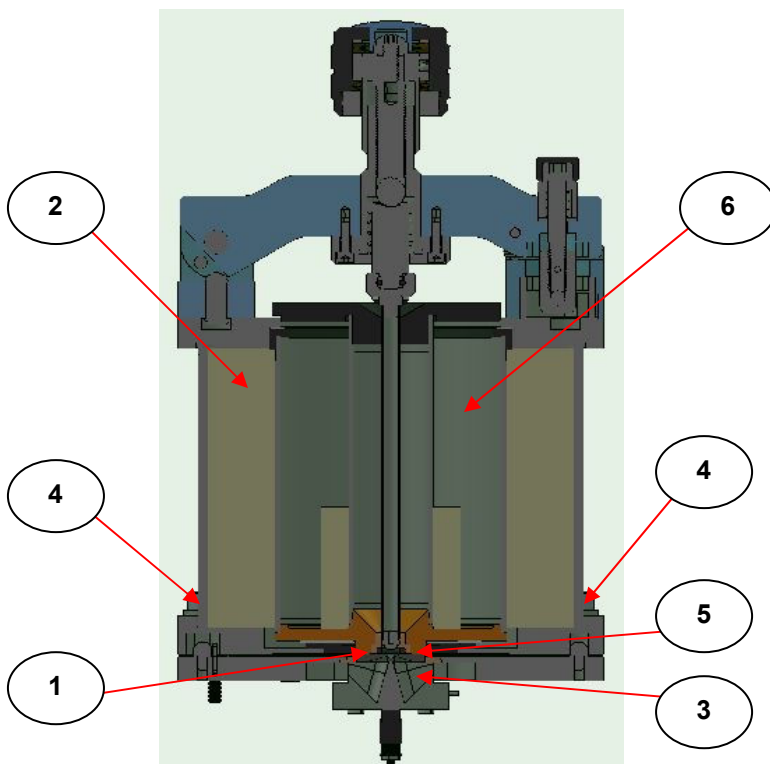

Fig 1. Cutaway Sectional Front View of Low Temperature Golden Gate™ Top Plate
The analysis area of the top plate is a heatable diamond crystal bonded into a tungsten carbide support disk (1), surrounded by a cooling jacket dewar assembly (2). The dewar assembly is clamped to the heated diamond ATR top plate (3) by four clamping screws (4). There is a heat transfer gasket (5) between the diamond/ tungsten carbide disk (1) and the centre part of the dewar (2). (Please see Figs 1 and 2.)